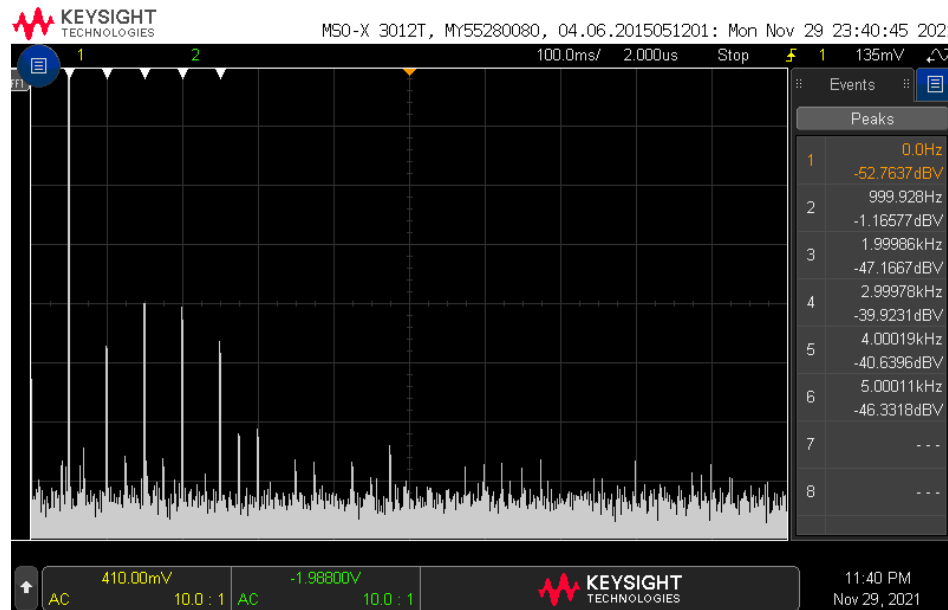

Figure 2: An oscilloscope measuring the FFT of a 1kHz sine wave using the Search function.
Figure 2 shows an example FFT from the Audio board output with a 1kHz sine wave input. I used the Search feature from last week's lab to measure the height of each harmonic shown in the Peaks window on the right side of the screen.
We want to record the harmonics of the input sine wave from Figure 2 as the values in the dB column of Table 1. When you do this you should:
- Ignore any of the Peak frequencies in Figure 2 which are not a close integer multiple of the input frequency.
The values in the dBc column of Table 1 are computed for as the difference in decibels between the harmonic to the carrier. So the dBc value for the second harmonic at 2kHz is  $-47\text{dB} - (-1.2\text{dB}) = -46\text{dB}$  (round to 2-significant figures). Using Equation 5 we can convert this into the ratio of powers as  $10^{-46/10} = 2.6 \times 10^{-5}$ . Use the information in Figure 2 to complete the remaining rows of Table 1.
Table 1: The height of the fundamental and harmonics in Figure 2 transformed into the ratio of power of the individual harmonic to the carrier.
Finally, you need to use Equation 7 to convert the values in the  $10^{\text{dBc}/10}$  column to THD. This process is started in the equation below, complete the computation and find the THD for the FFT shown in Figure 2.